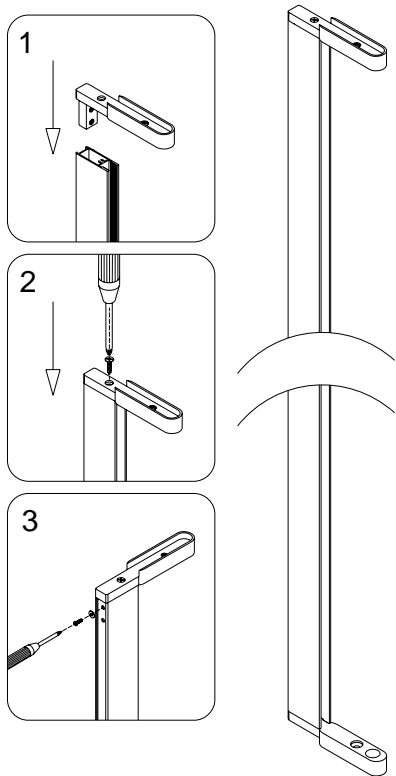

Fig 3
3. Locate the **Glass profile for glass door (2)**. Push the upper **Pivot bracket (9)** into the top groove of the **Glass profile for glass door (2)**; then secure it and the profile with **Flat head screw ST4.2x25 (17)** and **M4x16 bolts (14)**. Repeat the same steps for the bottom Pivot bracket. See Fig 3 for details.
4. Install the bottom **Pivot assembly (7)** onto the **Pivot bracket (9)**. Make sure that the **Washer (12)** is in between the pivot assembly and the pivot bracket (this washer may come with the pivot assembly). Remove the back fastener from the pivot assembly. Locate the **Glass door (3)**.